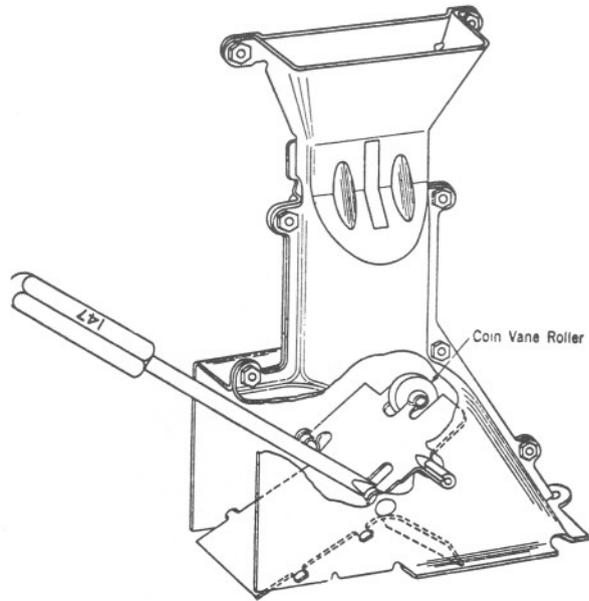

Figure 13
- (4) If vane is in good condition, it may be re-used. If necessary, free coin vane roller with KS-7860 petroleum spirits. Clean vane thoroughly using KS-2423 cloth moistened with petroleum spirits. Vane shall be replaced if not in good condition.
- (5) When remounting coin vane, assure that lock washer is under head of the bearing screw. Check vane and hopper clearance as in Paragraph 4.07 of section.
- (6) If vane scrapes on front of hopper, place No. 147 tool or equivalent, such as a No. 35 tool or KS-6854 screwdriver, as shown in Figure 13 and adjust front bearing outward by turning tool slightly. If vane scrapes against back of hopper, adjust rear bearing outward as described. In adjusting vane, be careful not to introduce any binding at bearings.
- (7) If vane binds at front bearing, place No. 147 tool or equivalent between coin vane and back wall of coin hopper and turn tool slightly. Tool should be placed about opposite coin vane pin in order not to produce burrs on coin vane or on shoulder of stud used for coin vane bearing. If vane binds at